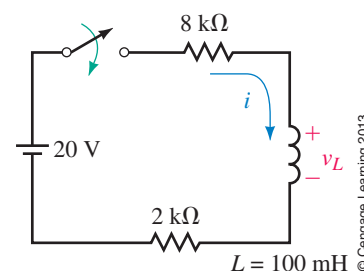

FIGURE 14–12
- For the circuit of Figure 14–12, the switch is closed at $t = 0$ s.
- For the circuit of Figure 14–7, $E = 85\ \text{V}$, $R = 50\ \Omega$, and $L = 0.5\ \text{H}$. Use the universal time constant curves to determine v_L and i at $t = 20\ \text{ms}$.
We now look at what happens when inductor current is interrupted. Consider Figure 14–13. At the instant the switch is opened, the field begins to collapse, which induces a voltage in the coil. If inductance is large and current is high, a great deal of energy is released in a very short time, creating a huge voltage that may damage equipment and create a shock hazard. (This induced voltage is referred to as an **inductive kick**.) For example, abruptly breaking the current through a large inductor (such as a motor or generator field coil) can create voltage spikes up to several thousand volts, a value large enough to draw long arcs as indicated in Figure 14–13. Even moderate-sized inductances in electronic systems can create enough voltage to cause damage if protective circuitry is not used.
FIGURE 14–13 The sudden collapse of the magnetic field when the switch is opened causes a large induced voltage across the coil. (Several thousand volts may result.) The switch arcs over due to this voltage.